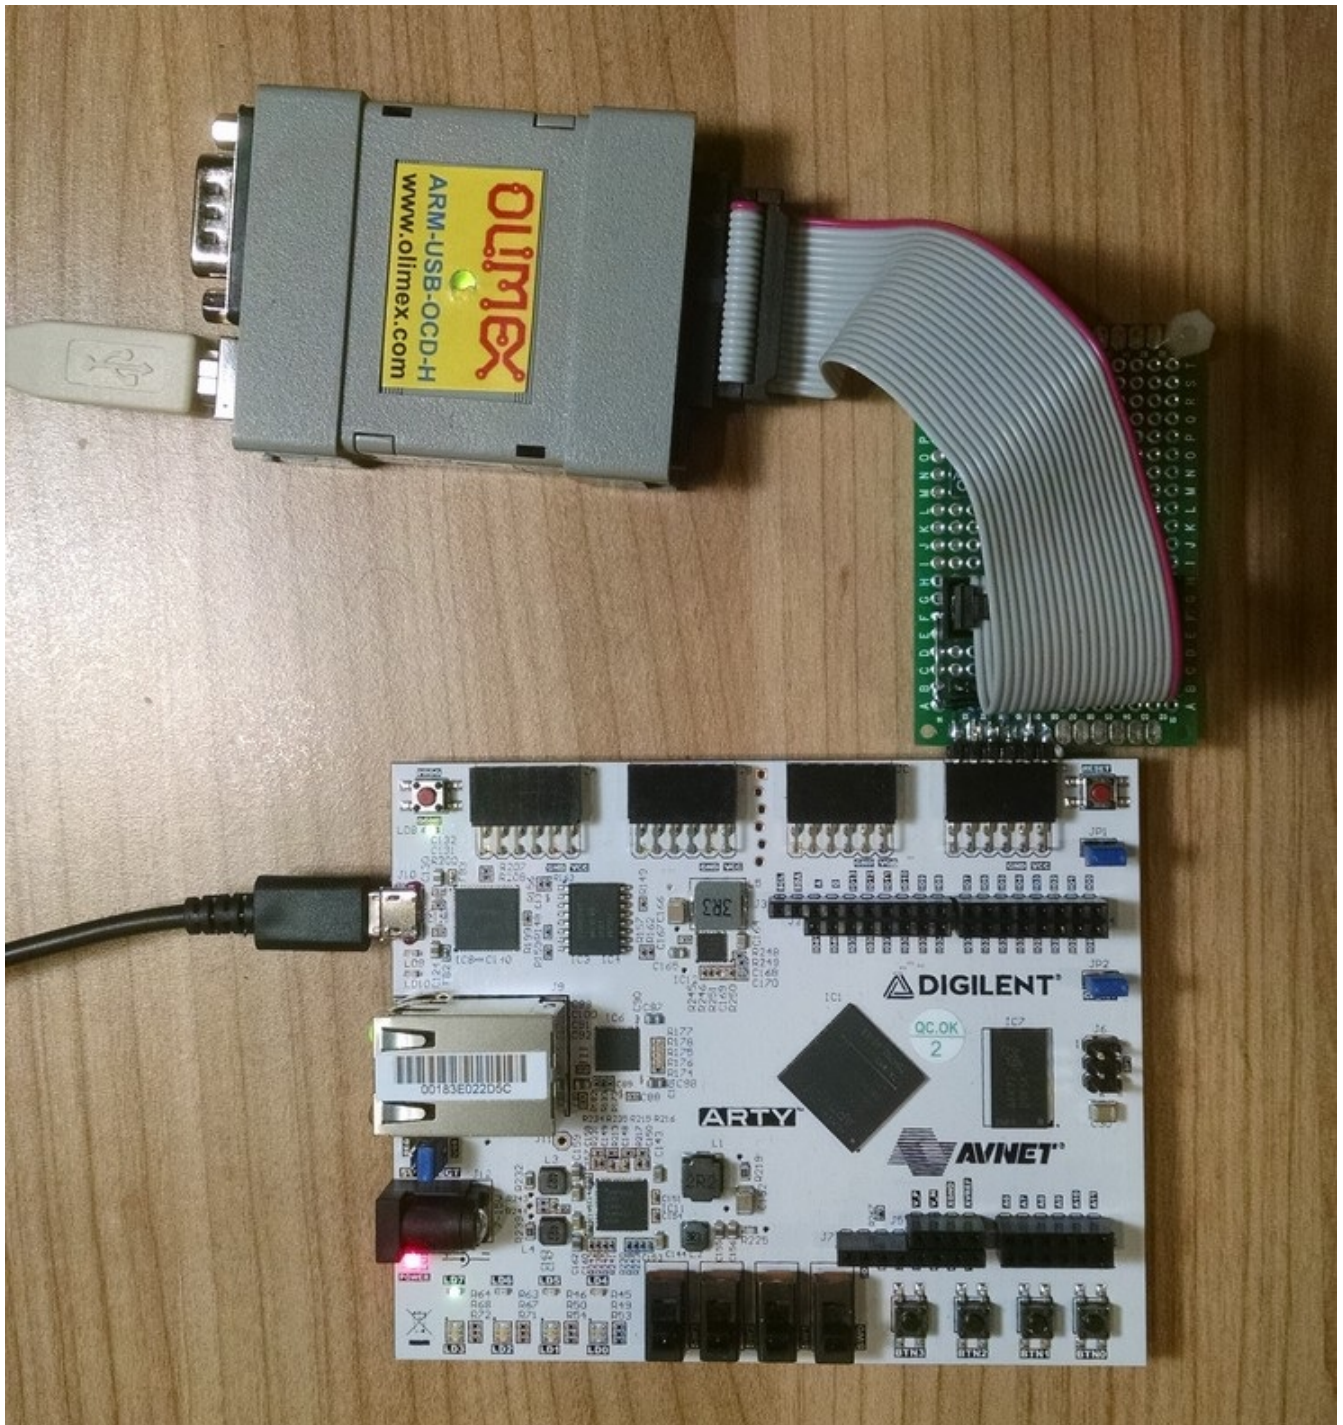

Figure 2. Arty Board with JTAG Cable Adapter
- **Small prototype board** with connectors for standard 20-wire ARM JTAG flat ribbon cable, and for JD PMod. Example of this approach is shown below in Figure 2.
SCR1 JTAG connection on the Arty board is shown in Figure 2. For pin-out of the JTAG port refer to Appendix A. JTAG Pin-Out\("Table 1"\).